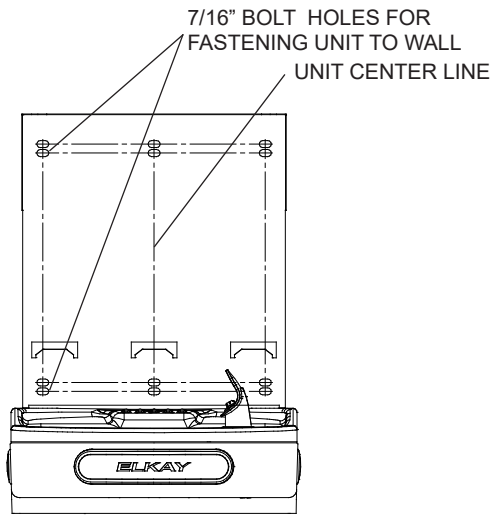

Fig. 4
- 2) **Remove wall mounting plate** from Bottle Filler. Place wall plate against wall on top of basin. Center the wall plate side to side with the basin. Mark the six (6) mounting holes with a pencil (See Fig. 4).
- 4) **Install wall mounting plate** to wall using six (6) 7/16" obround mounting holes (mounting bolts not included) (See Fig. 4). Use appropriate fasteners for your wall type.